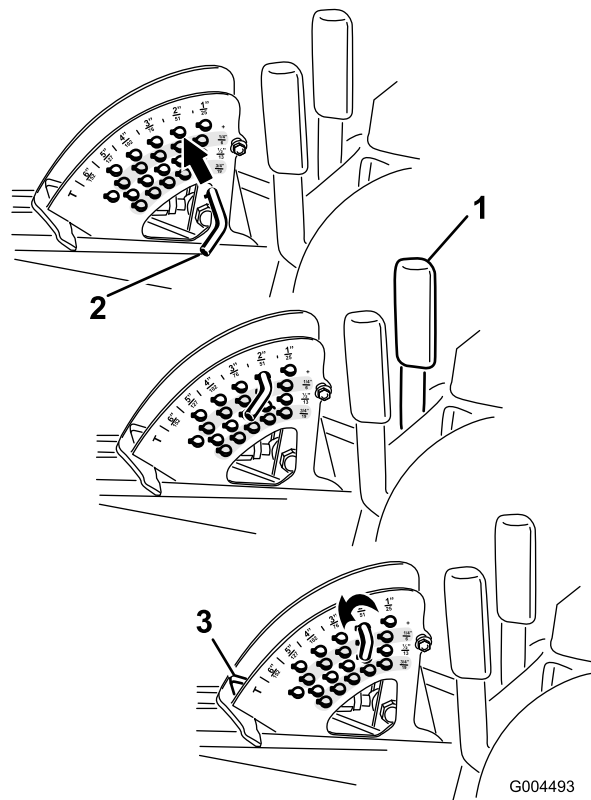

Figure 22
Note: To lock the mower deck in a raised position, raise the deck past the 15 cm (6 inch) position, remove the height of cut stop pin (refer to Adjusting the Height-of-Cut), and place the pin in the 15 cm (6 inch) height-of-cut position (Figure 22).
1. With the engine running, pull back on the deck lift lever until the mower deck is fully raised and **release the lever immediately** (Figure 22).
2. To adjust, rotate the stop pin until the roll pin in it lines up with the slots in the holes in the height-of-cut bracket and remove it (Figure 22).
3. Select a hole in the height-of-cut bracket corresponding to the height-of-cut desired, insert the pin, and rotate it down to lock it in place (Figure 22).
Note: There are four rows of hole positions (Figure 22). The top row gives you the height of cut listed above the pin. The second row down gives you the height listed plus 6 mm (1/4 inch). The third row down gives you the height listed plus 12 mm (1/2 inch). The bottom row gives you the height listed plus 18 mm (3/4 inch). For the 15.8 cm (6 inch) position there is only one hole, located in the second row. This does not add 6 mm (1/4 inch) to the 15.8 cm (6 inch) position.